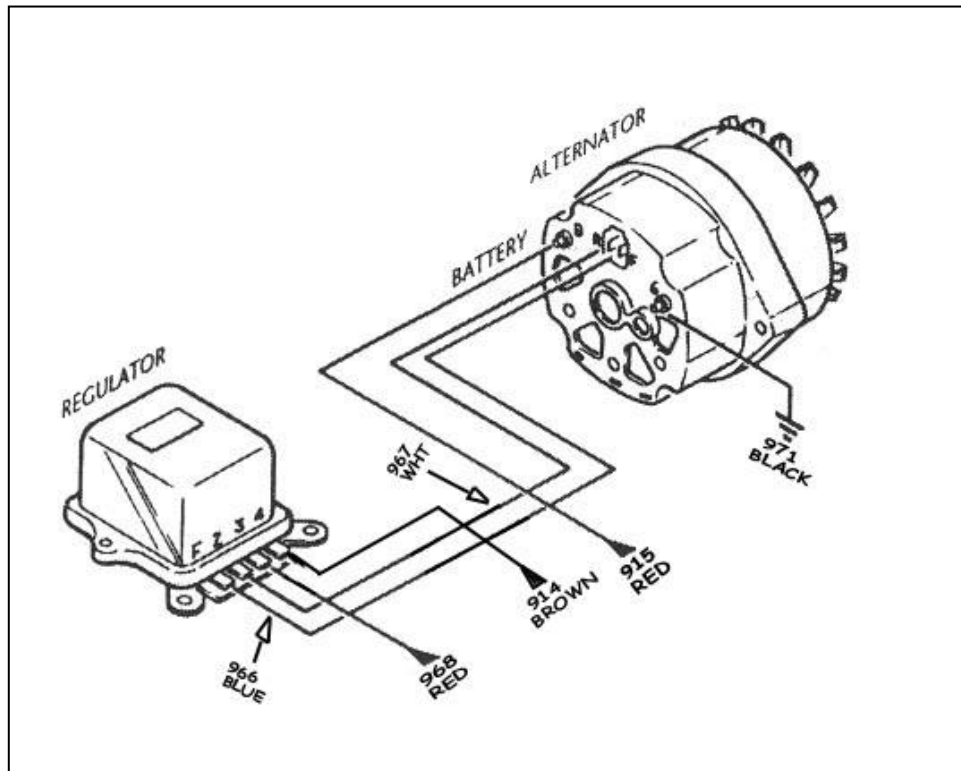

Figure 7.1 Early GM Alternator – External Regulator
7.1 EARLY GM ALTERNATOR (BEFORE 1969) – EXTERNAL REGULATOR. (SEE FIGURE 7-1)